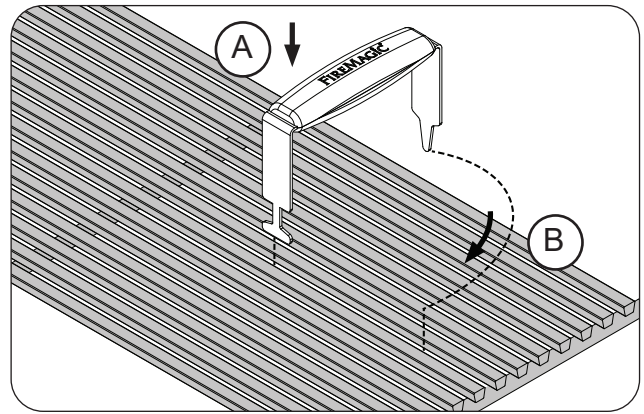
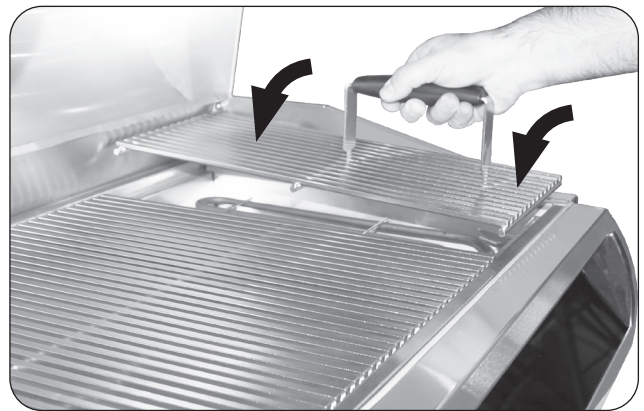

Fig. 34-1 Install cooking grids
Fig. 34-2 Install cooking grids
1. With the prongs facing downward, insert the notched-end of the lifter between two grid rods, then rotate, as shown in Fig. 34-1, A & B.
2. Insert the rear pointed-end of the lifter between the same two rods (Fig. 34-1, B) and carefully lift the cooking grid and place onto the front and rear grid rests of the grill (see Fig. 34-2). Repeat for all other cooking grids.